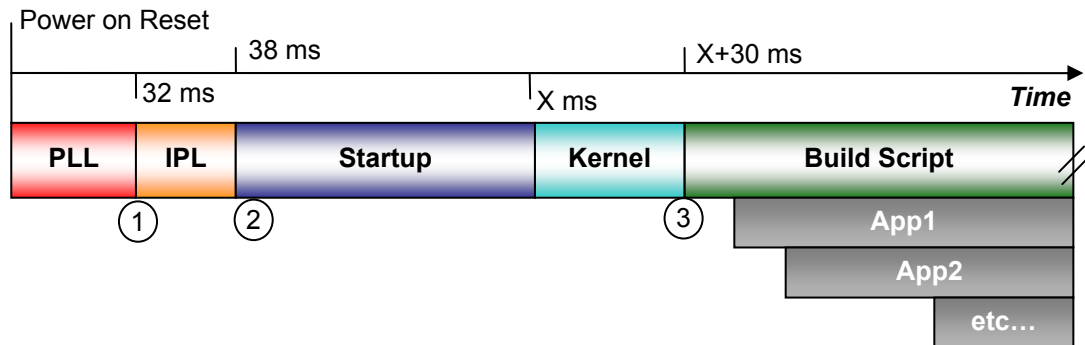

Figure 1 — QNX Neutrino boot process (durations not to scale).
Like most operating systems, the QNX Neutrino RTOS boots in several stages. See Figure 1.
and any other drivers, applications, and binaries that the system requires. Because you can control what the IFS contains, the time for this stage is variable and listed as X in Figure 1. The time can be as short as 200 milliseconds or as long as 2 to 3 seconds. In extreme cases where the system contains a very large image and has no file system other than the IFS, this stage may take much longer (10 seconds or more).
- **Build script** — Lets you specify which drivers and applications to start, and in what order. Because the QNX Neutrino RTOS is a microkernel OS, every driver, server, and application (App1, App2, etc. in Figure 1) runs as a separately loadable user-level process. This approach offers a major benefit: you don't have to wait for the kernel and a full set of drivers to load and initialize before you get control. Once the microkernel is running, you can interleave drivers and applications to achieve the fastest possible system startup. More on this later.
To optimize any boot stage, you must measure its duration, modify the code, then measure again to see how much timing has improved. Some basic techniques exist for measuring time, and their applicability depends on the starting point of the measurement. If you look at Figure 1, you'll see three key points represented by circled numbers: